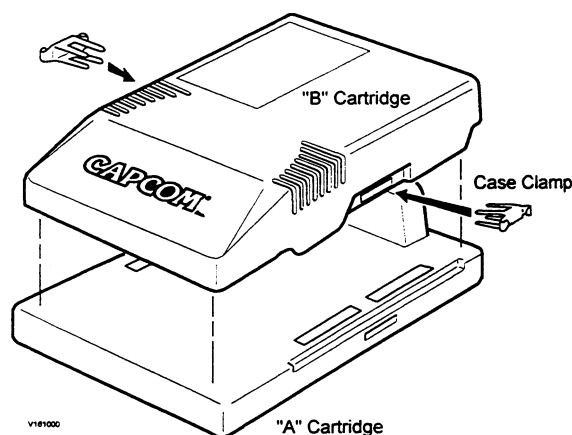

Figure 12 : Case Clamp Installation
15. To remove the existing “B” cartridge from the “A” cartridge, pull the old case clamps apart (see Figure 12). Carefully remove the old “B” cartridge and install the new “B” cartridge. Re-install the case clamps.